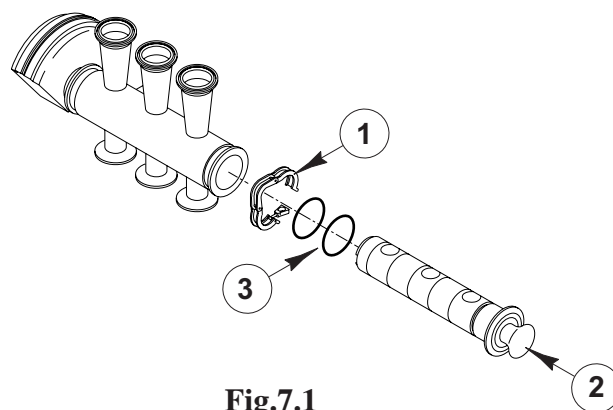

Fig.7.1
- a. Unlock the clamp hook (*Position 1, figure 7.1*) and extract the cylinder using the knob (*Position 2, figure 7.1*)
- b. Disassemble the gasket (*Position 3, figure 7.1*)
- c. Re-assemble the new gasket (*Position 3, figure 7.1*) and be careful not to pinch them